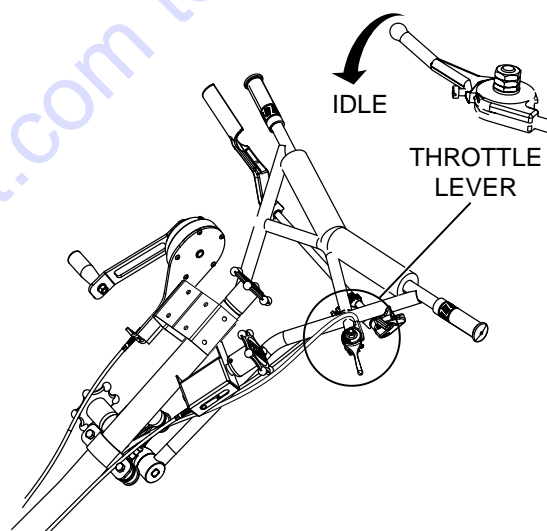

Figure 38. Throttle (Idle Position)
3. Place the *throttle lever* (Figure 38) in the "idle" position.